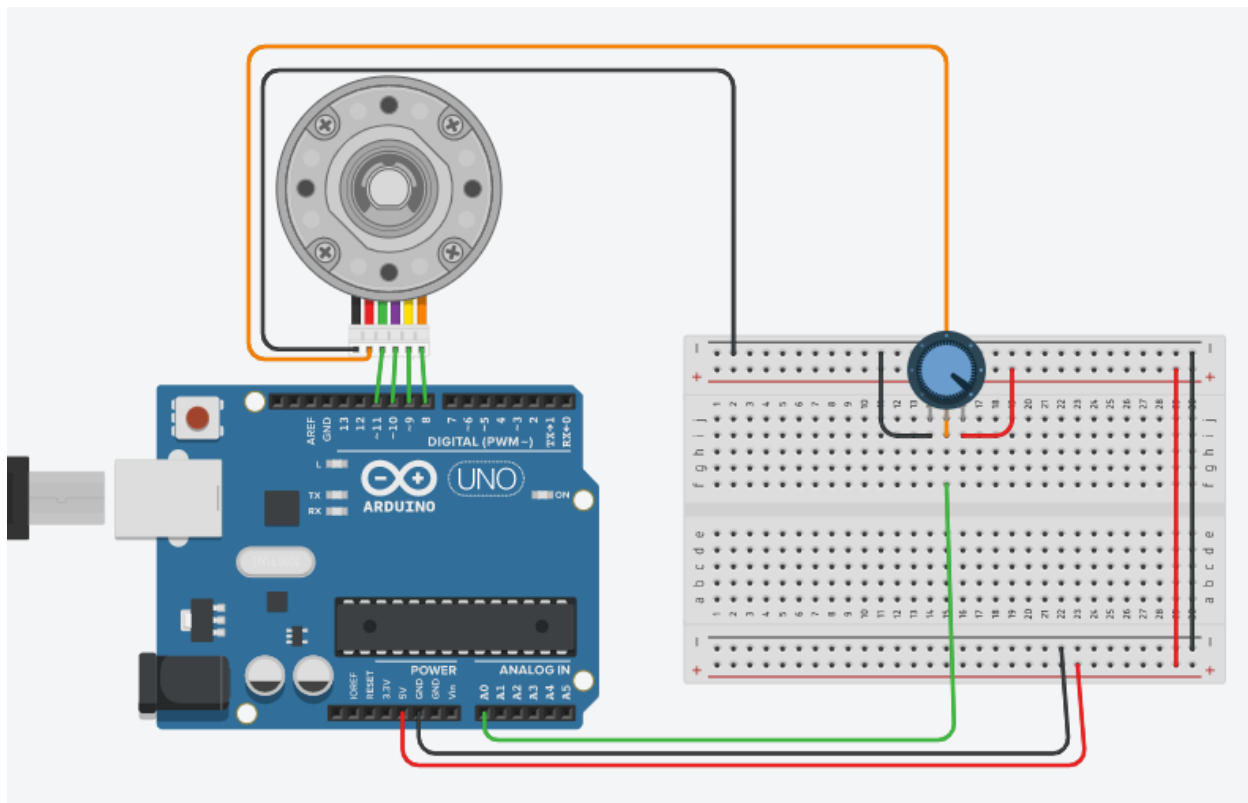

Figure4 : Tinkercad Stepper motor.
Step1: connect the circuit bellow (in fig4) in Tinkercad.